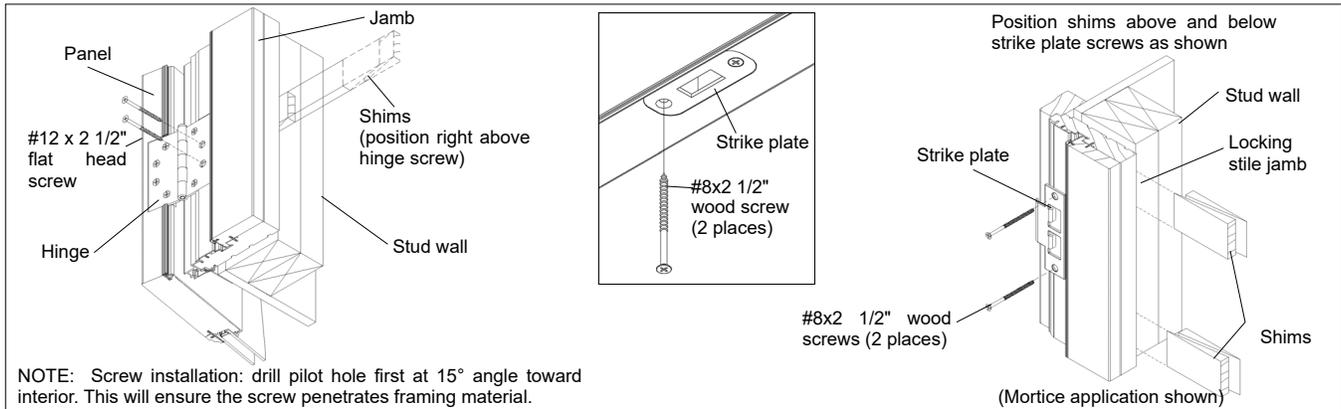

Figure 3
3. On all operating panels, install two #12 x 2 1/2" screws in all hinges as shown in figure 3.
4. Where applicable, remove and replace screws on all side and head jamb strike plates with #8x2 1/2" screws provided. See figure 3.
6. After margins are adjusted and panel(s) is aligned, loosen long screw in one hinge 1/4 turn and position shim material between frame and opening directly above screw. Then tighten screw and recheck panel margins and alignment. Adjust if needed. Repeat for other panels if necessary. Refer back to figure 3 for shim placement.